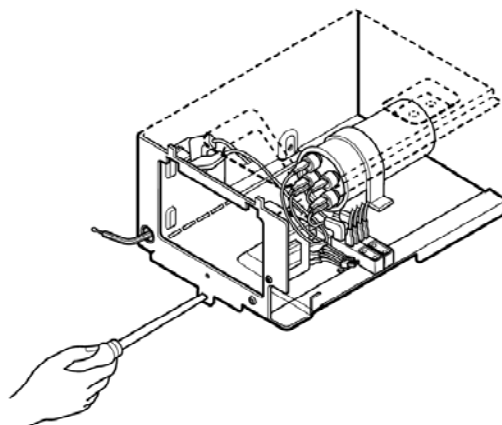

Figure 11
6. Re-install the components by referring to the above removal procedure. (See Figure 11)
5. Re-install the components by referring to the above removal procedure. (See Figure 11)